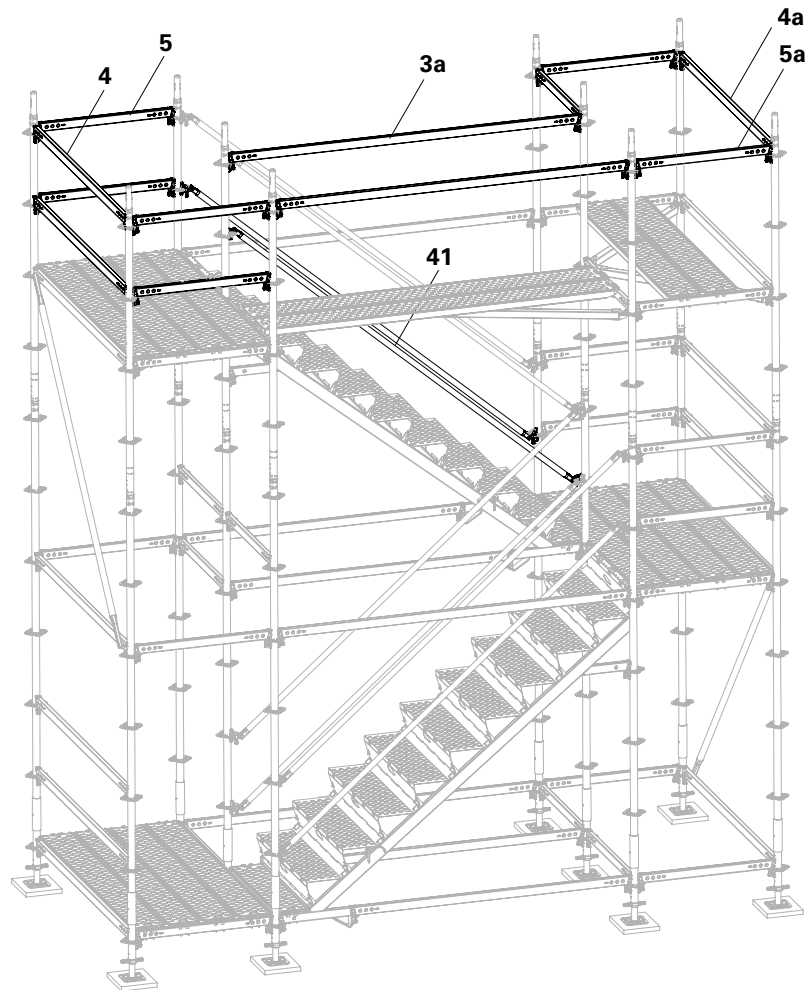

Fig. A3.09
2. Fit Horizontal Ledgers UH-2 (**4 + 5**) as a landing guardrail. (Fig. A3.09)